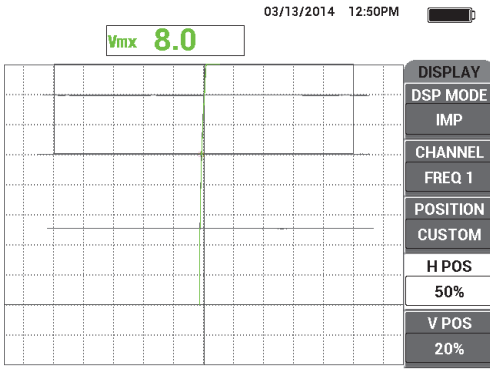

Figure 5-90 Using the vertical signal deflection to evaluate unknown thicknesses
- 11. Press and hold the REF SAVE key (REF ) , and then press the ERASE key () to clear the live signals (see Figure 5-90 on page 191).